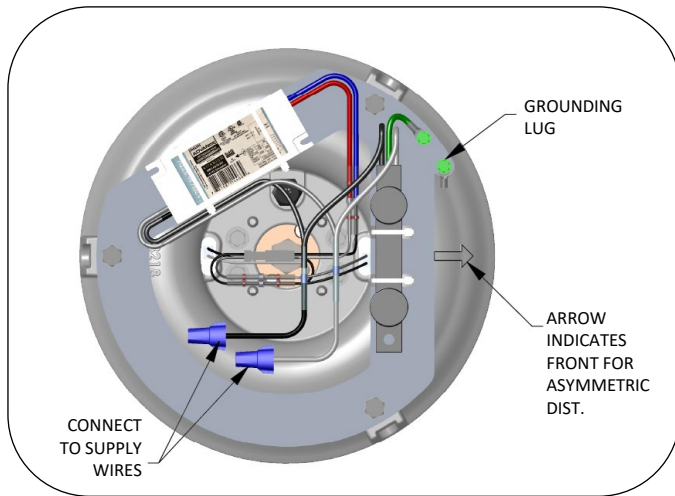
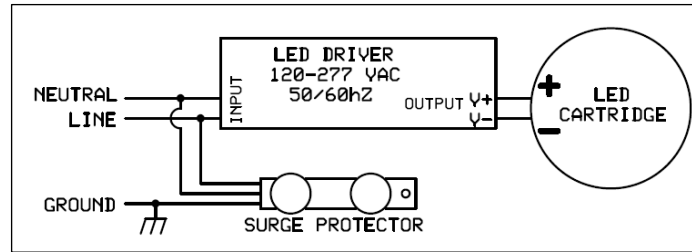

Fig. 9 – Make wiring connections
Fig. 10 – Path light wiring schematic
12. Make wiring connections (refer to page 3) between driver plate and line-in supply wiring, see Fig. 9 and Fig. 10.